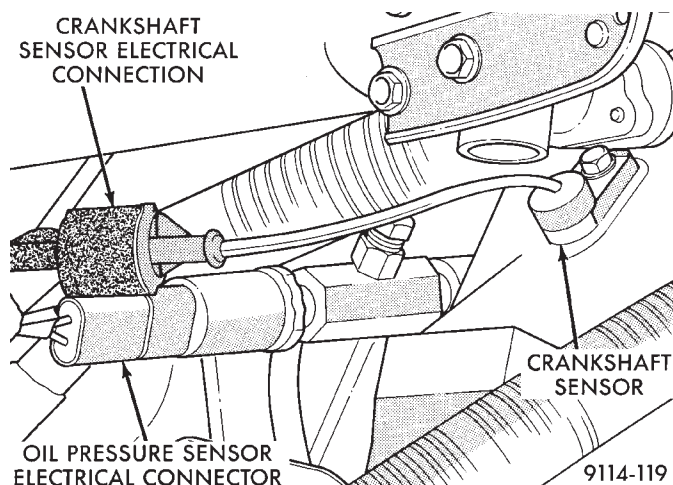
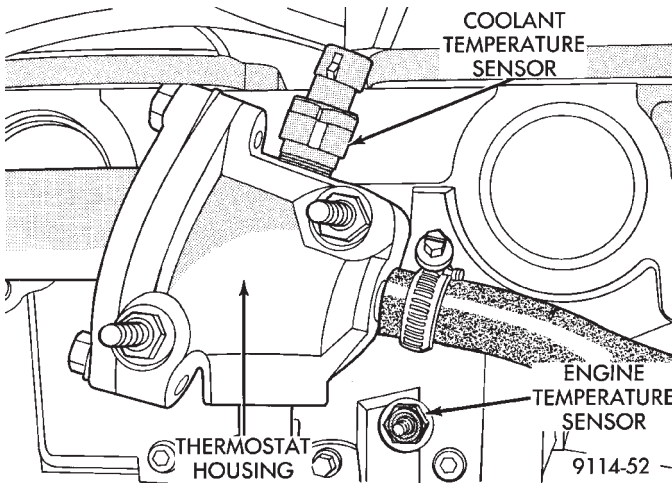

Fig. 7 Oil Pressure Sending Unit and Crankshaft Sensor Electrical Connections
Fig. 9 Coolant Temperature and Engine Temperature Sensor
(9) Check oil pressure sending unit electrical connection (Fig. 7).
(10) Check the camshaft and crankshaft sensor electrical connections (Figs. 7 and 8).
(11) Check radiator fan electrical connector.
(12) Check electrical connector at the coolant temperature sensor (Fig. 9).
(13) Inspect the engine temperature sensor electrical connection (Fig. 9).